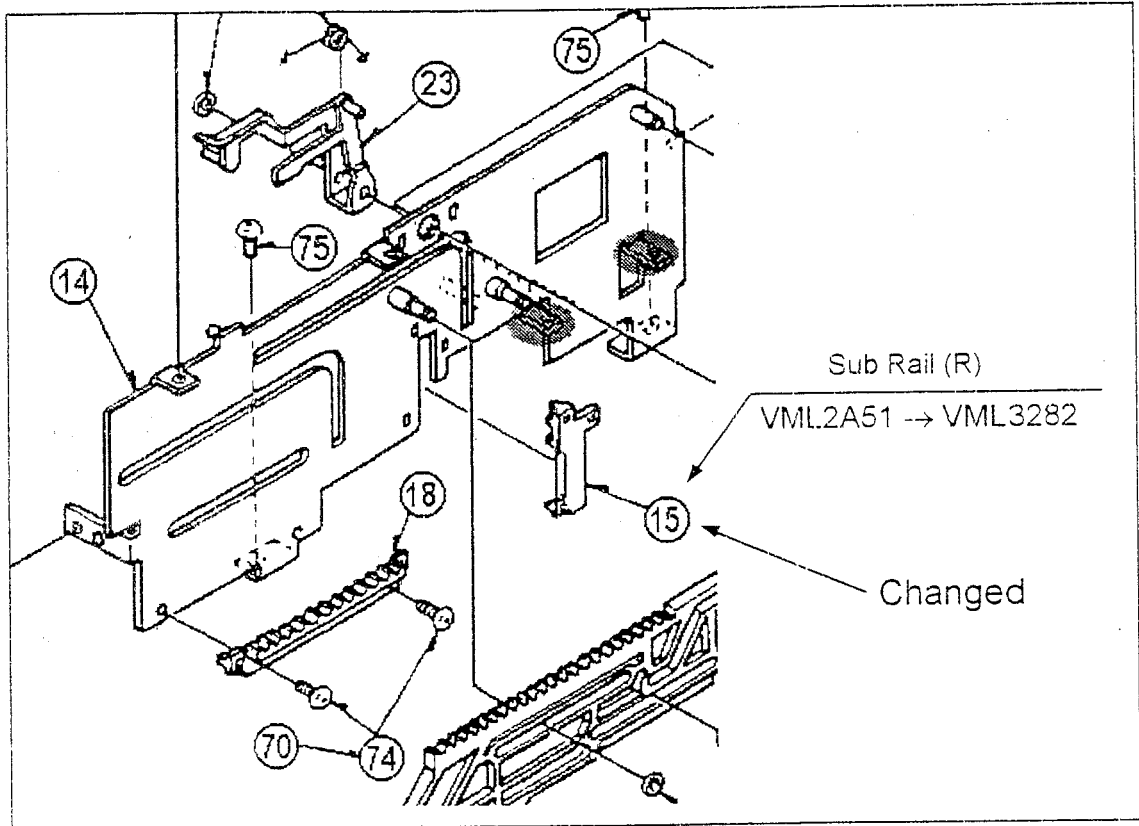

Fig. 1
Remedy : To improve the cassette insertion, the Sub Rail (R) and (L) are changed as shown in figures 1 and 2.
- 1). Screws for Wiper Racks are changed from VHD0678 to LMHD16061 as shown in figures 1 and 3.